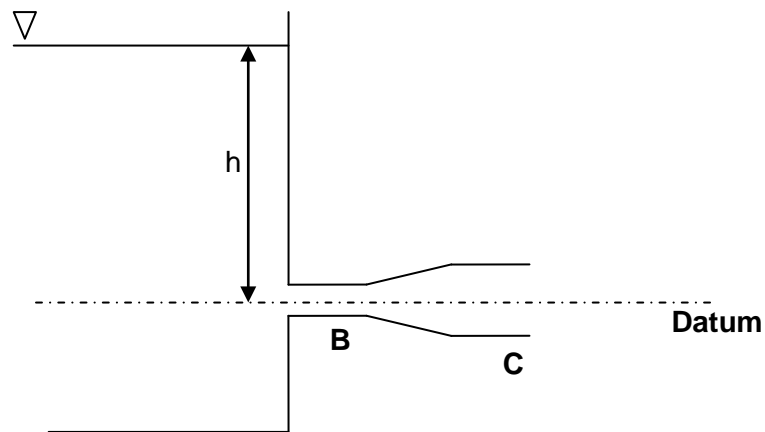

Figure 9 / Rajah 9
- [c] Referring to Figure 9, assume the tube flows full and all friction losses are negligible. The diameter at B is 60 mm and the diameter of jet discharging into the air is 80 mm. If $h = 5$ m, what is the flow rate? What is the pressure head at B? What is the flow rate? What would be the flow rate if the tube were cut off at B?